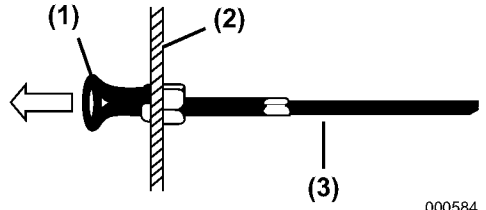

Figure 5
4. With the key in the ON position, pull and hold the engine stop knob (**Figure 5, (1)**) until the engine has come to a complete stop. After the engine has stopped, turn the key switch to OFF.